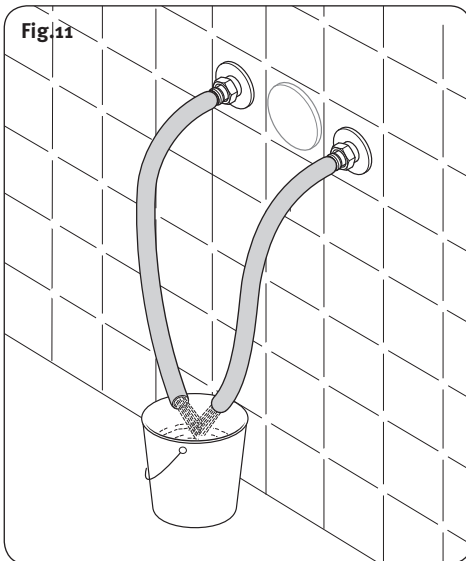

Fig.11
**Make sure that all the supply pipework has been flushed through before fitting the mixer (fig.11).**